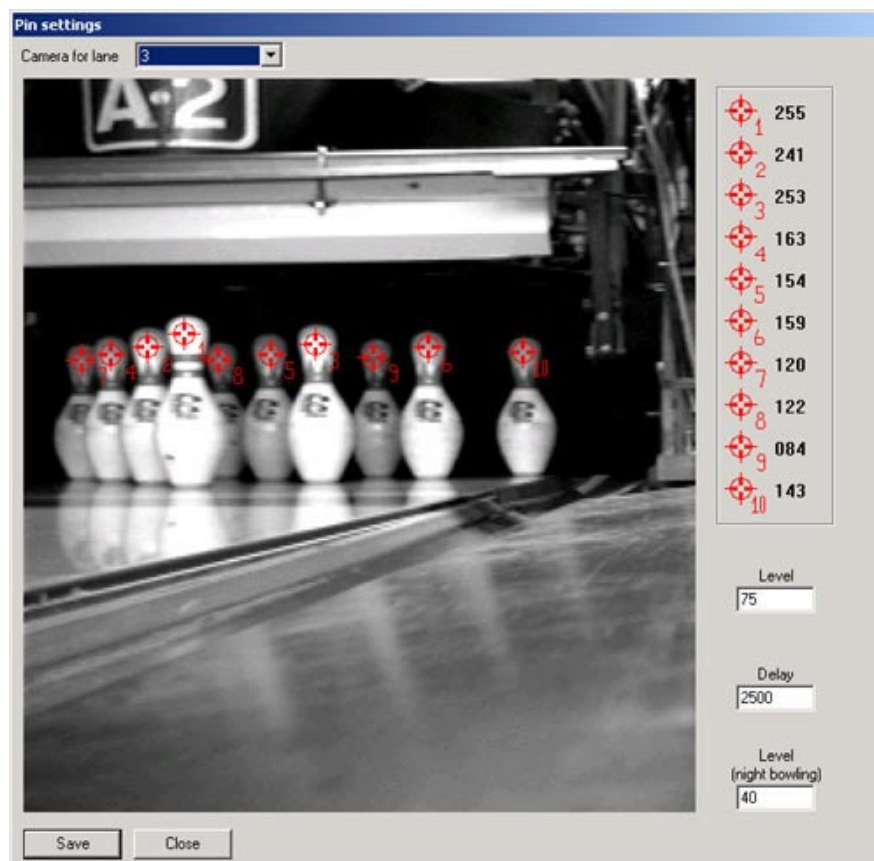

Figure 1
1. Look at the “Pin Setting Adjustment” screen from the Vector Server. Figure 1 shows typical resolution and the correct target placement. If there is a loose lens condition, all the pins will be shifted from the targets or the pins will have a blurred image.